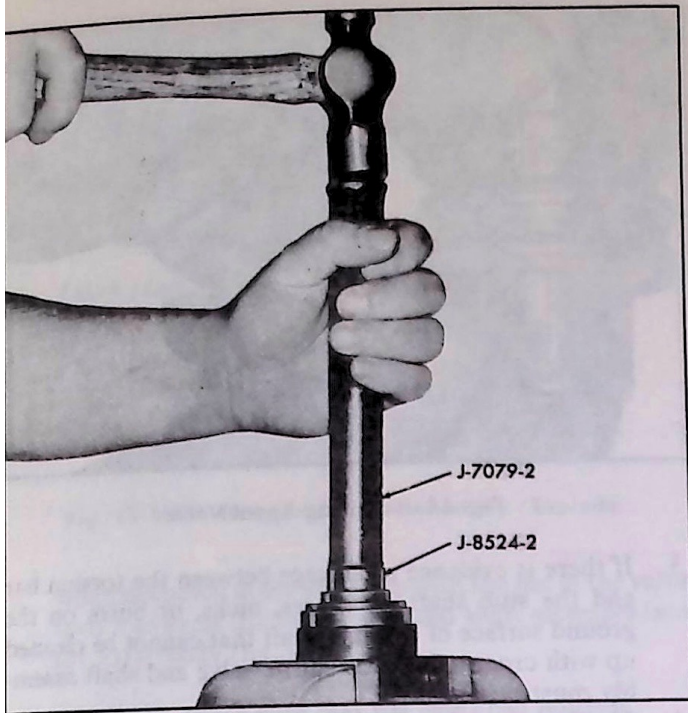

Fig. 39-Removing Bearing and Seal
3. If the needle bearing is to be replaced, remove the retaining ring using Internal Pliers J-4245. Remove thrust bearing as outlined in Step 2 above. Drive needle bearing, dust seal and oil seal from adjuster plug using Bearing Remover J-8524-2 and Driver J-7079-2 as shown in Figure 39. Discard the oil seal.